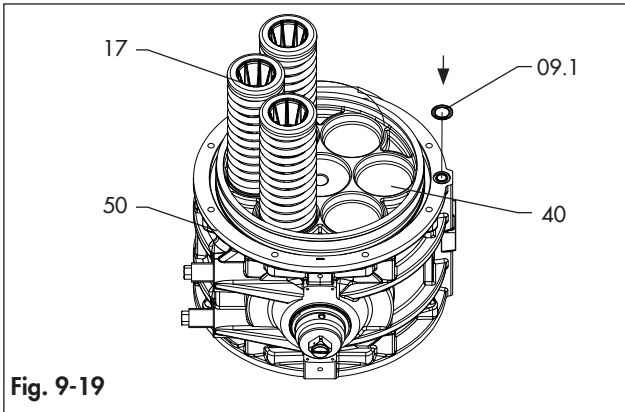
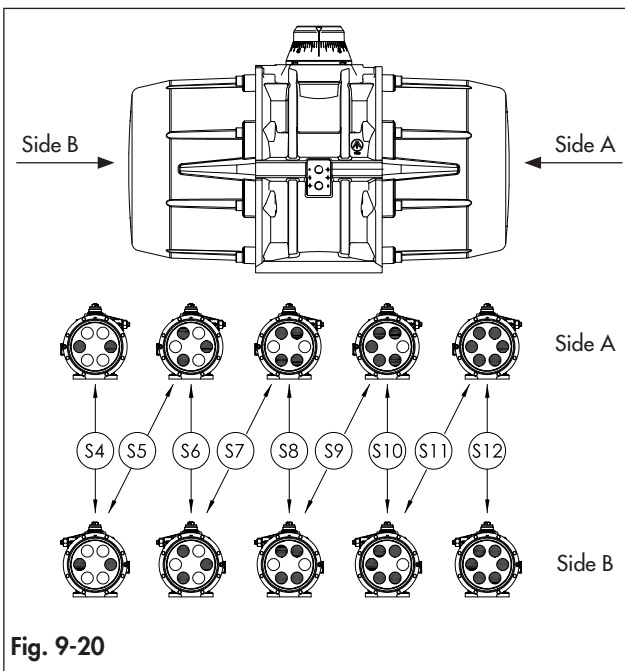

Fig. 9-19
Fig. 9-20
- Place the actuator in vertical position. as per Fig. 9-19.
- In case of spring return actuator, place the correct quantity of spring cartridges (Fig. 9-19) in the correct position as indicated in Fig. 9-20 depending on the actuator configuration.
- Lubricate and place the o-ring (09.1) over the body (50). (Fig. 9-19)